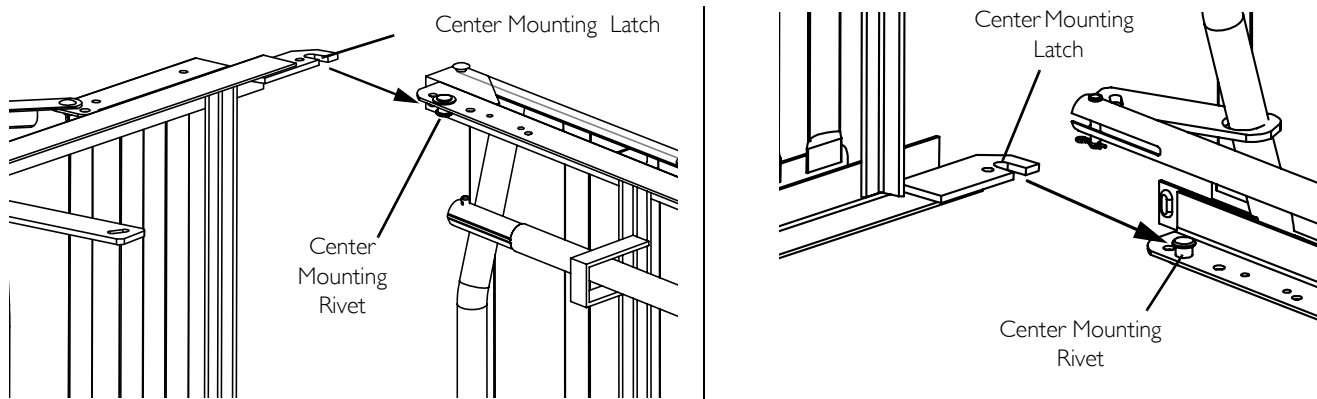

FIGURE 4 Set-Up - Assembling the Head and Foot Sections
For this procedure, refer to FIGURE 4 on page 38.
6. Hook the bottom head section center mounting latch to the bottom foot section center mounting rivet (FIGURE 4).
7. Hook the top head section center mounting latch to the top foot section center mounting rivet (FIGURE 4).